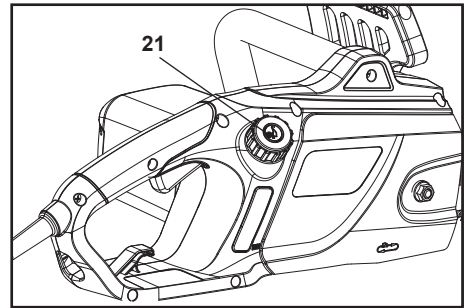

Fig. 3a
1. Place the product on a stable, level surface with the oil tank cap (21) facing upward. We recommend laying a nonflammable sheet under the product.
2. Unscrew and remove the oil tank cap (21) (Fig. 3a).